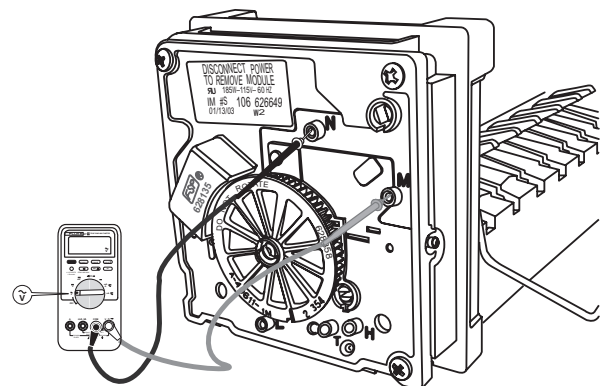

Figure 58. Checking voltage to motor
- Set multimeter to AC scale, then connect probes to test point N and M. See Figure 58. Test probe tips must be 1/2 inch long to make full contact with internal terminals. Voltage at the motor should measure 108 to 132 volts.